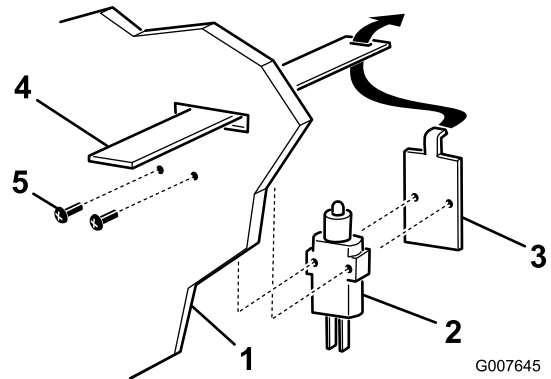

Figure 7
1. Reach beneath the rear of the tractor and hold the full bag switch and switch plate while removing the 2 screws on the rear panel (Figure 7).
3. Hook the switch plate onto the lever and secure the switch and switch plate to the rear panel with the 2 screws (Figure 7).